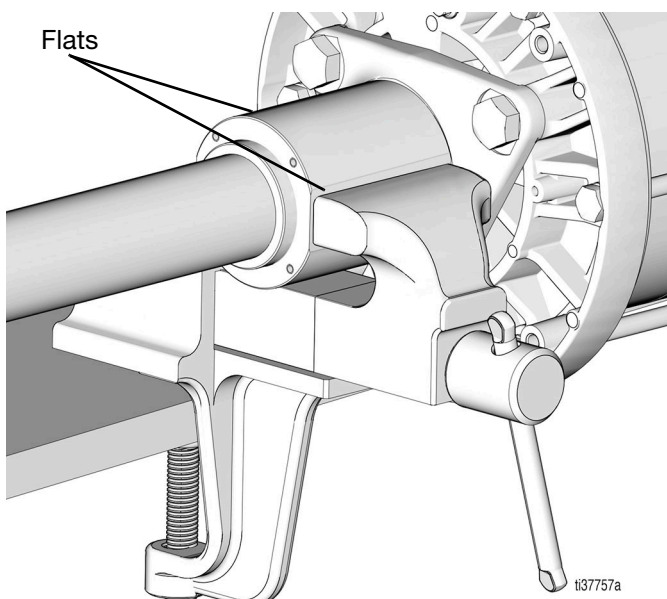

FIG. 6
9. Position the pump horizontally into a vise and secure on the flats (FIG. 6).